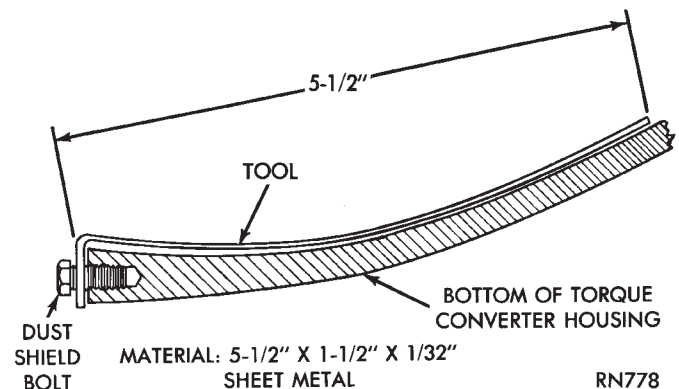
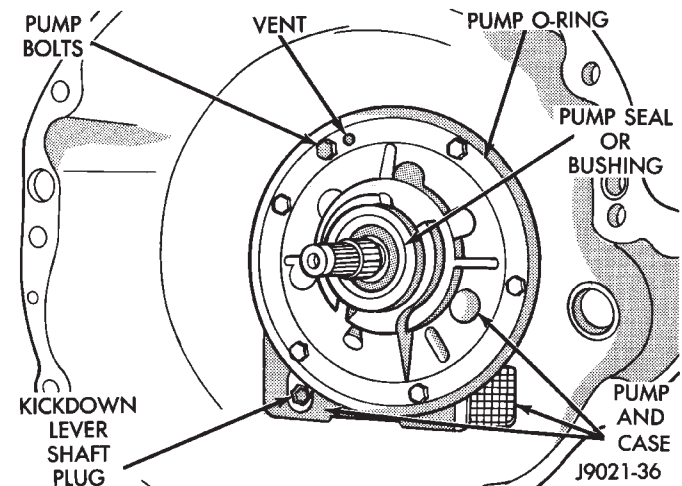

Fig. 10 Leak Test Probe
Fig. 11 Pump Area Inspection Points
- (1) Raise the rear of the vehicle and allow accumulated fluid to drain out of the converter housing.
- (2) Check and adjust the transmission fluid level.
- (3) Raise the vehicle. Remove the converter housing dust cover and wipe as much fluid as possible from the converter housing.
- (4) Fabricate a test probe (Fig. 10). Then attach the probe to the converter housing with one of the dust shield bolts (Fig. 10).
- (5) Have a helper run the engine at 2500 rpm (with the transmission in Neutral) for two minutes; then stop the engine.
- (6) Inspect the test probe and converter housing. If a leak is evident, note the color of the fluid. Transmission fluid is red. Engine oil ranges in color from brown to green, or to black when the oil is dirty.
(7) If the probe upper surface is dry, the converter and seal are not at fault. A path of fluid across the probe upper surface indicates a converter or seal leak. Fluid leaking **under** the probe is coming from the pump housing area (Fig. 11).
(8) Fluid leaking under the probe could be from the: pump seal and/or bushing, pump vent, kickdown lever shaft access plug, pump bolts, or porous spots in the pump body or transmission case (Fig. 11).
(9) If porous spots in the transmission case or pump body are the suspected leak source, pressurize the transmission as described in Leak Testing With Air Pressure.